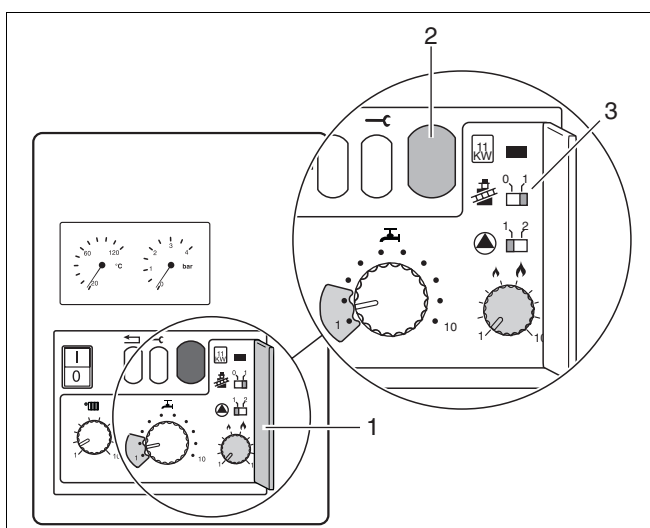

Fig. 32 Display and chimney-sweep switch
- Open cover for 2nd operating level (fig. 32, item 1).
- Start boiler up and move chimney sweep switch (fig. 32, item 3) to position "1".
The display shows (fig. 32, item 2) "–." or "–." to indicate that the gas supply system is purged of air. Return chimney sweep switch to normal running position, that is position "0".